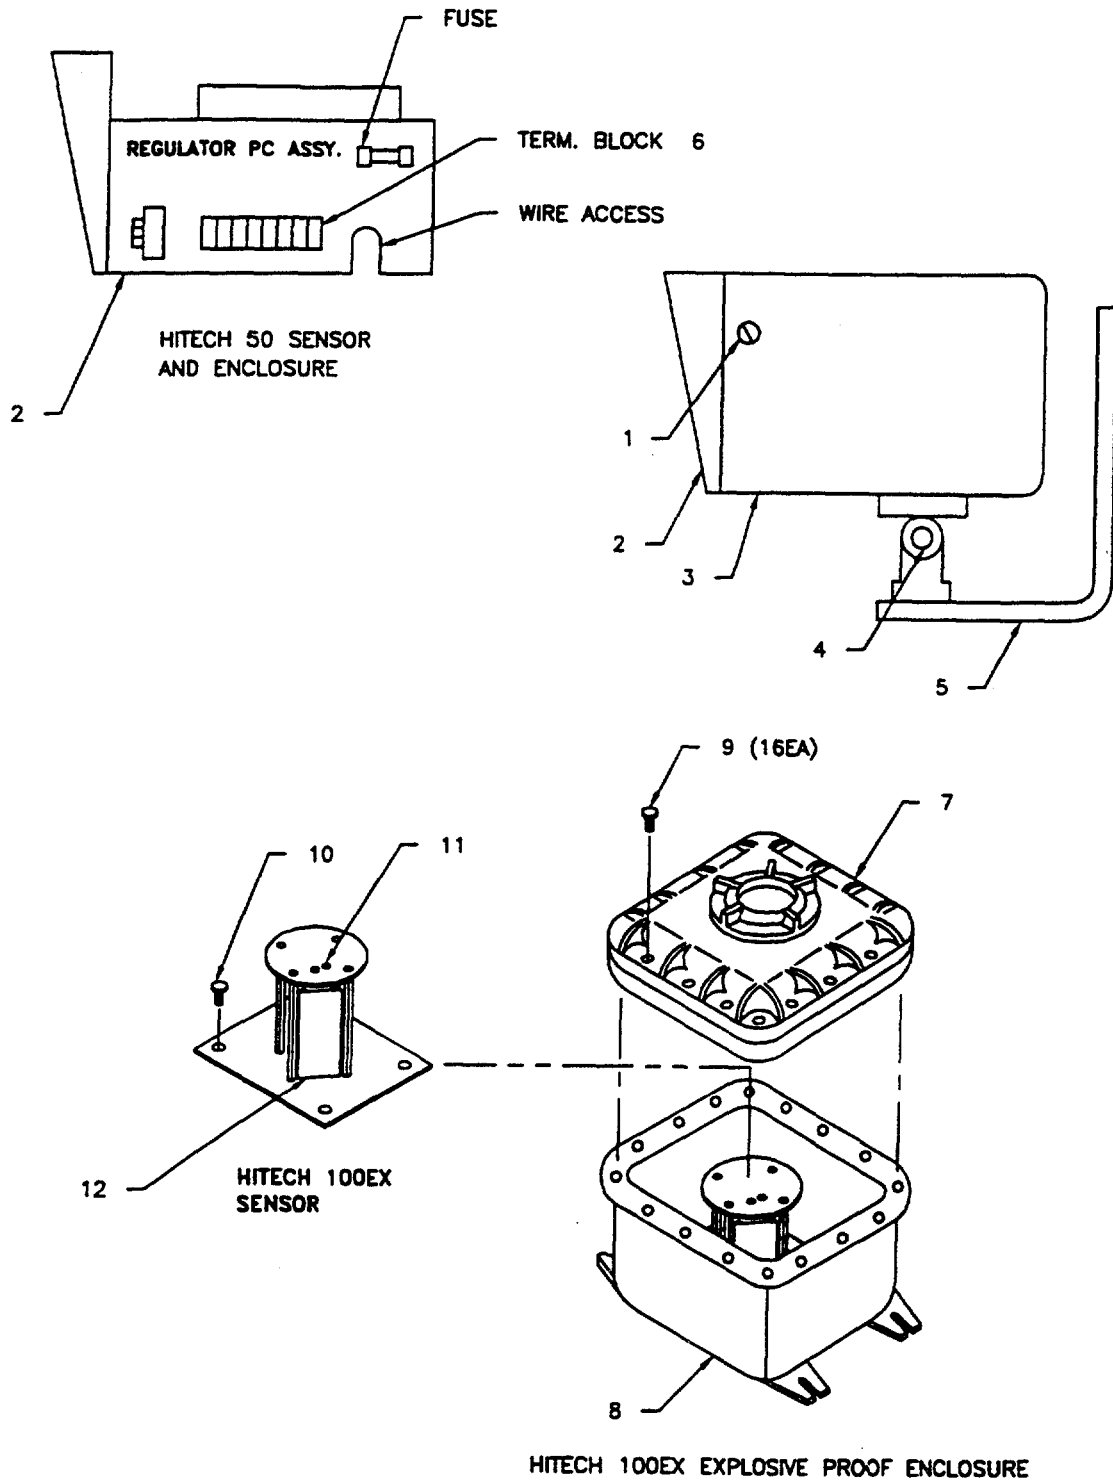

Figure 3-67. Removal and Replacement of Microwave Motion Sensor Assemblies
**3-119. REPLACE MICROWAVE MOTION SENSOR, HITECH 50 SERIES.** (Figure 3-67).
(1) Connect HITECH sensor housing assembly (3) to bracket assembly (5) with bolt (4).
(2) Remove two screws (1) at sides of HITECH sensor housing (3) and remove PWA (2) from sensor housing (3).
(3) Connect tagged wire to PWA terminal block (6).
(4) Install PWA (2) in HITECH sensor housing (3) and secure with two screws (1).
(5) Connect input power ac or dc by turning on input power source or plugging in power source.
(6) Align sensor. Ref. (SAIG, Appendix E, Section 3).
**3-120. REPLACE MICROWAVE MOTION SENSOR, HITECH 100 SERIES.** (Figure 3-67).